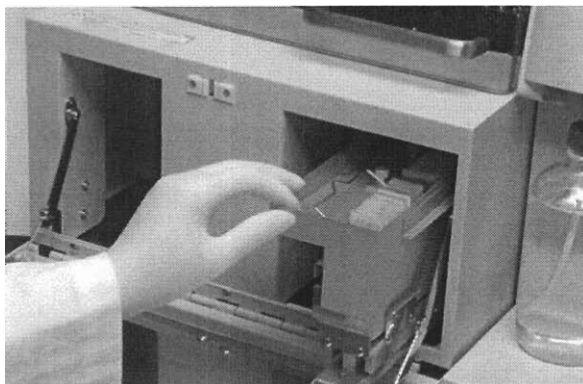

Figure 3-M
11. Place the slides prepared for coverslipping into the loading area of the instrument (Page 3.7, Fig. 3-M). To do so, open the lower door and carefully slide the loading drawer toward you. To access all three areas of the loading drawer, insert the first basket in the closest area. Using the hook will help guide the basket into the loading area easily. Be careful to move the hook toward the left of the instrument so that it avoids contact with the slide glass arm as slides are retrieved from the loading drawer. It is not necessary to load 3 baskets at one time. The instrument will operate with a minimum of 1 slide loaded and a maximum of 60 slides. The loading drawer can accommodate up to 3 baskets at one time.